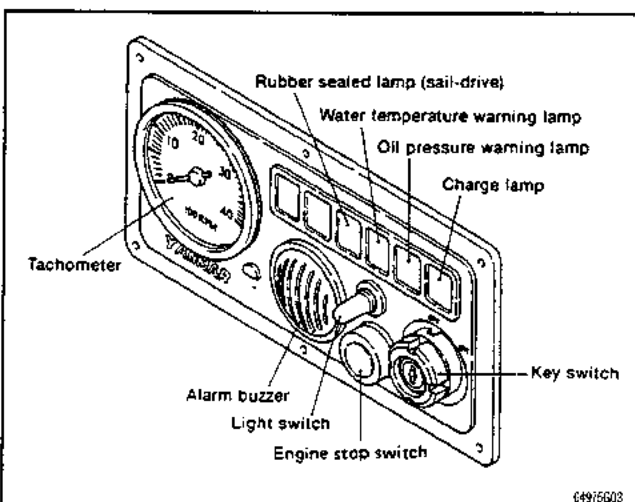

Fig. 37 The typical control panel contains several gauges and warning lights in addition to the key switch—Type "B" control panel shown
▶ See Figures 37, 38, 39 and 40